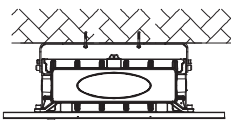

Figure 5
5. Hang the fixture into the lifting hook or chain and protect it from falling.(Figure 5).
7. After installation, please wire in accordance with local connection standard, and make sure to take waterproof measures at the joint of conduit. Users can adjust 30-60-90 degree to left or right from vertical downward direction by adjusting the screw on the bracket. (Figure 5 .Figure A).